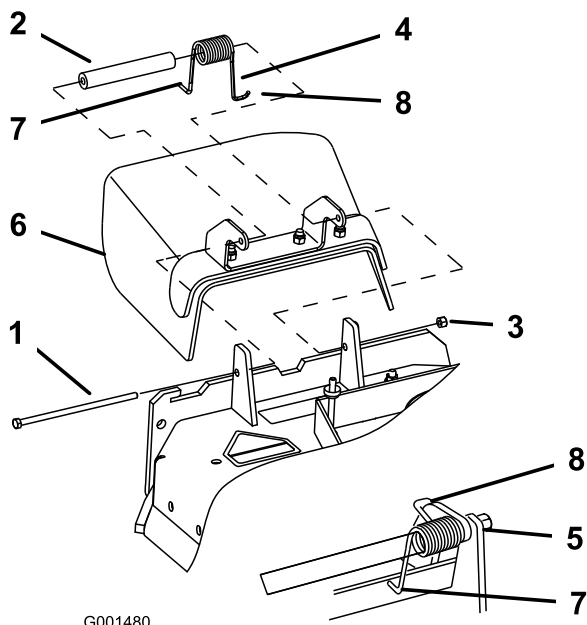

Figure 70
1. Remove the locknut, bolt, spring and spacer holding the deflector to the pivot brackets (Figure 70). Remove damaged or worn grass deflector.
Note: Make sure the **L** end of spring is installed behind deck edge before installing the bolt as shown in Figure 70.
3. Install bolt and nut. Place the **J** hook end of spring around grass deflector (Figure 70).